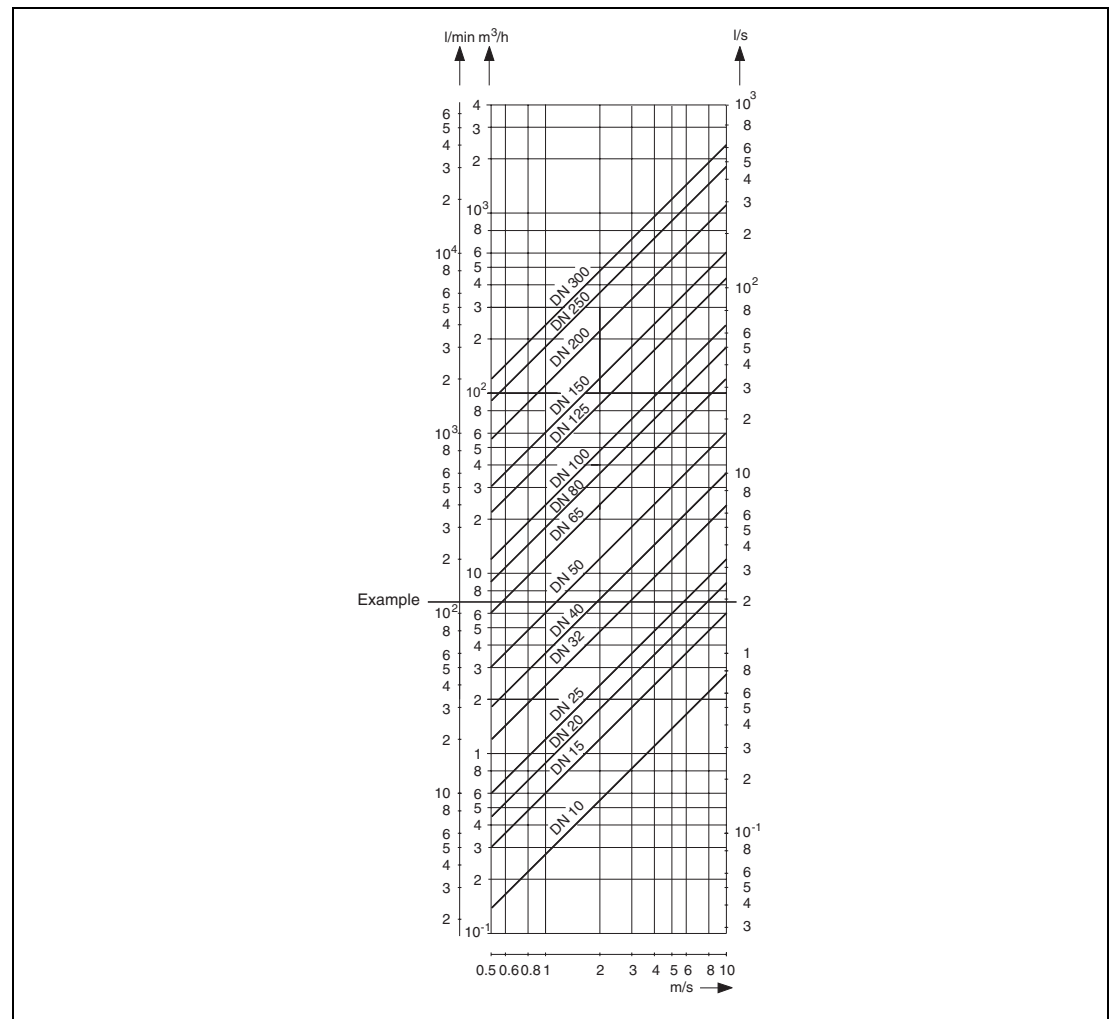

Fig. 12: Flowrate Nomograph DN 10 to DN 300 / 3/8" to 12"
2. Calculate the flow velocity as a function of the meter size and the flowrate. The flow velocity can also be determined from the Flowrate Nomograph Fig. 12.